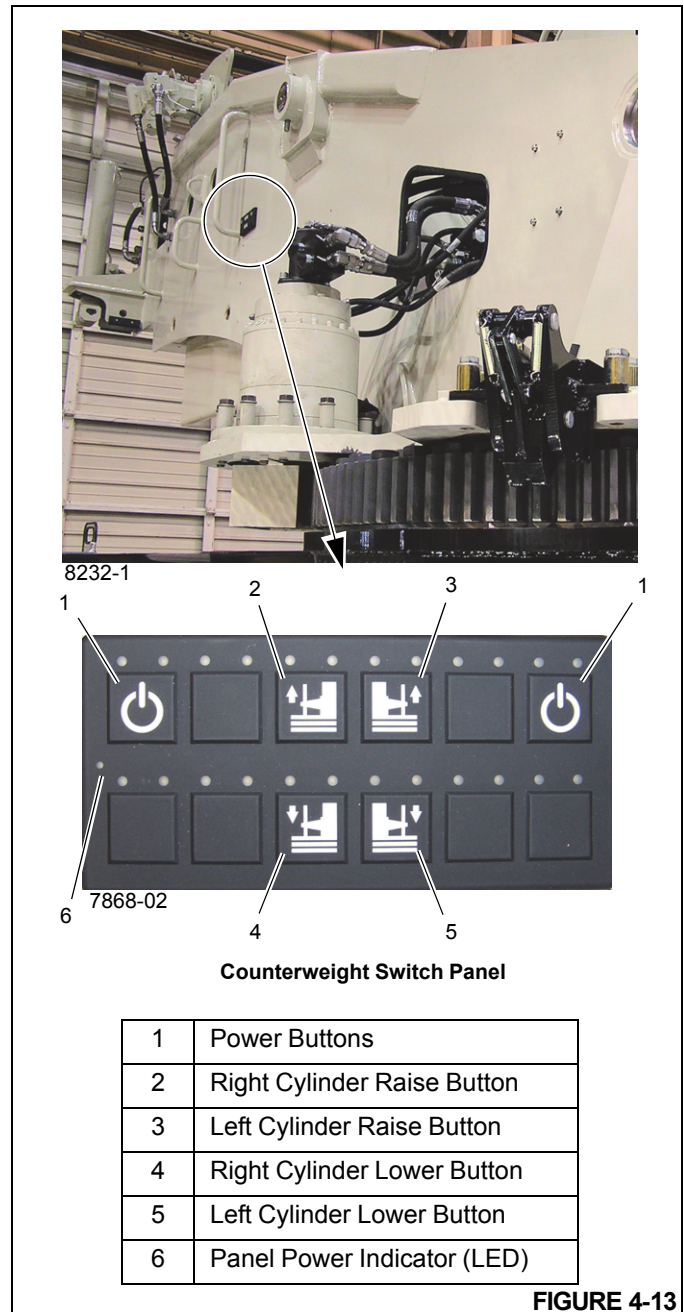

FIGURE 4-13
8. Using Counterweight Switch Panel (Figure 4-13) located on either side of turntable, lower the Counterweight Removal Cylinders by doing the following:
NOTE: The Counterweight Switch Panels will only function if the Crane Function Power Switch is turned off, an armrest is in the up position, or there is no one sitting in the crane cab operator's seat. A green LED (6, Figure 4-13) on the left side of the Counterweight Switch Panel will illuminate to indicate the panel is operational.
If a Counterweight Removal Cylinder Raise or Lower Button (4, 5, Figure 4-13) is pressed without first pressing and holding a Power Button (1, Figure 4-13), a red LED above that button will flash.
5. Using Counterweight Switch Panel (Figure 4-13) located on either side of the turntable, slightly raise the Counterweight Removal Cylinders by doing the following: